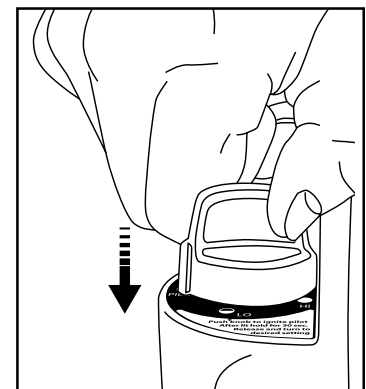

Figure 3: Ignition
- Turn Control Knob counterclockwise to "PILOT" position and depress to light; see Figure 3.